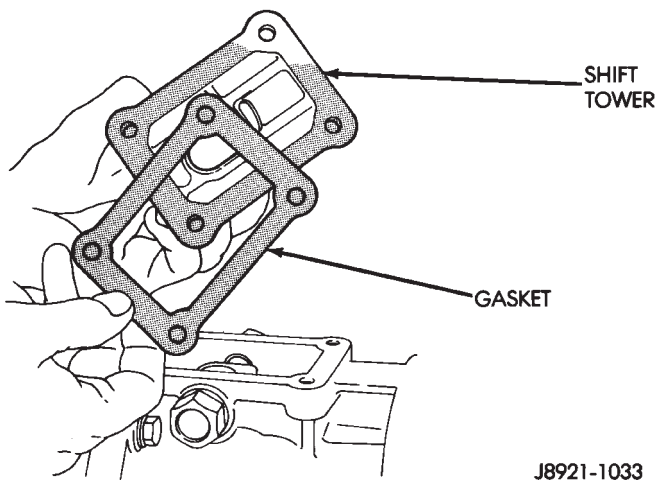

Fig. 127 Shift Tower Gasket Installation
(28) Position new shift tower gasket on adapter housing (Fig 127).